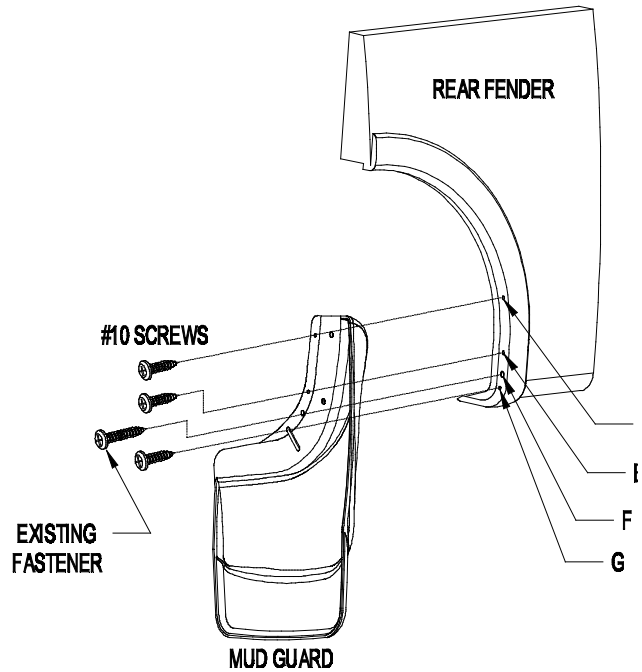

Figure 2
2. Remove existing fastener from location F and attach mud guard with existing fastener at location F (Figure 2), check fit and level before tightening.